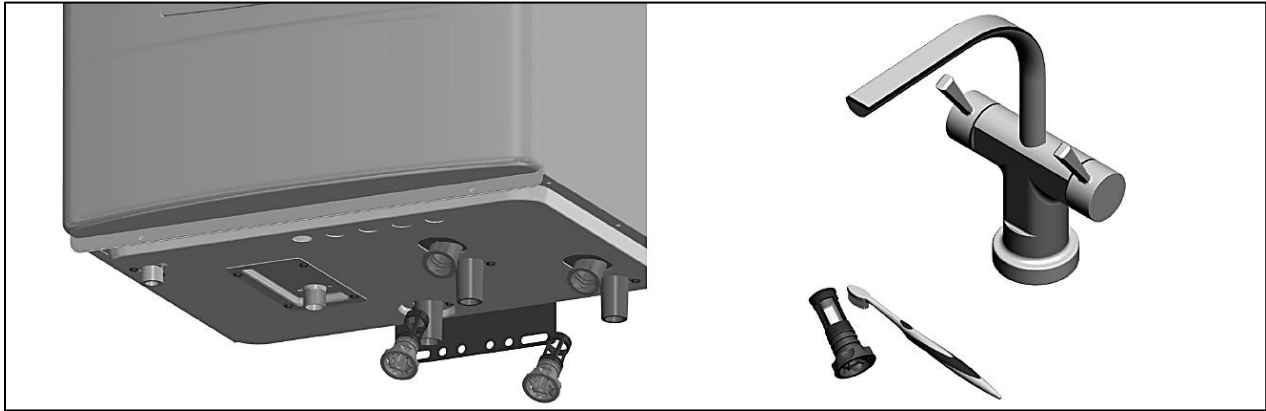

Figure 60 – Draining the Water Heater
2. Close the shutoff valves on both hot water outlet and cold water inlet lines (V1 and V2). See Figure 60.
3. Connect one hose (D1, Figure 60) to the valve (V3) and place the free end in a bucket. Connect one of the hoses (D3) to the circulation pump outlet and the cold water inlet line to valve V4. Connect the other hose (D2) to the circulation pump inlet and place the free end in the bucket.